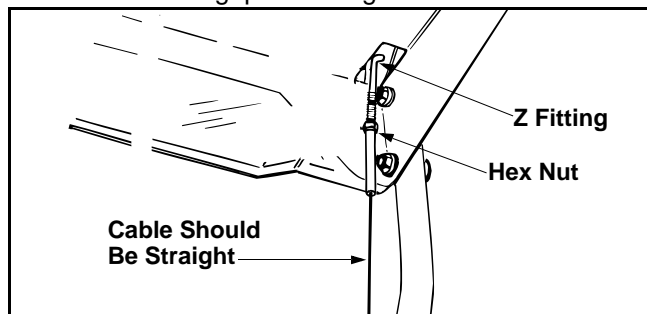

Figure 11
- Thread the jam nuts all the way up each of the “Z” fittings, toward the handle panel. See Figure 11.
- If Z fittings are **not** already attached, thread hex nuts onto the “Z” fittings and insert “Z” fitting into hole in clutch grips. See Figure 11.